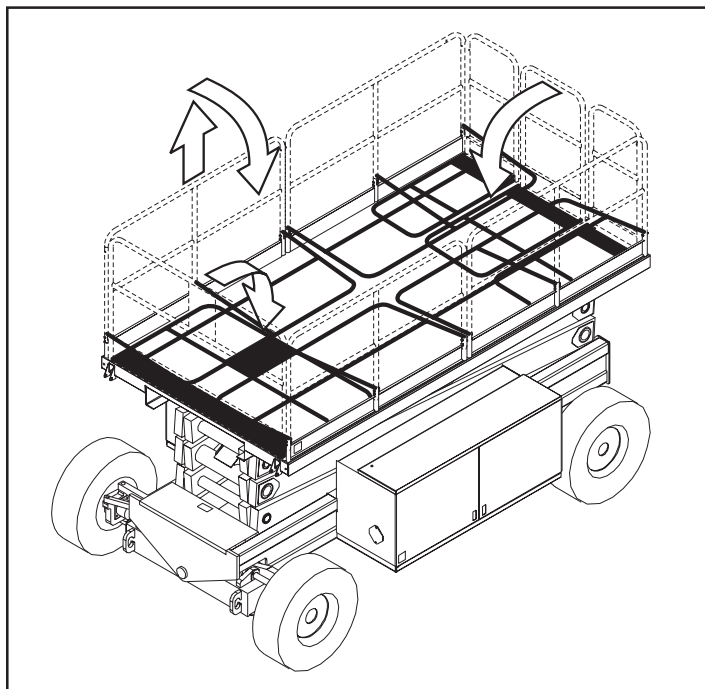

Figure 3-2: Fold Down Guardrails
3.6 Fold Down Guardrails (Figure 3-2)
FOLD DOWN PROCEDURE (FIGURE 3-2)